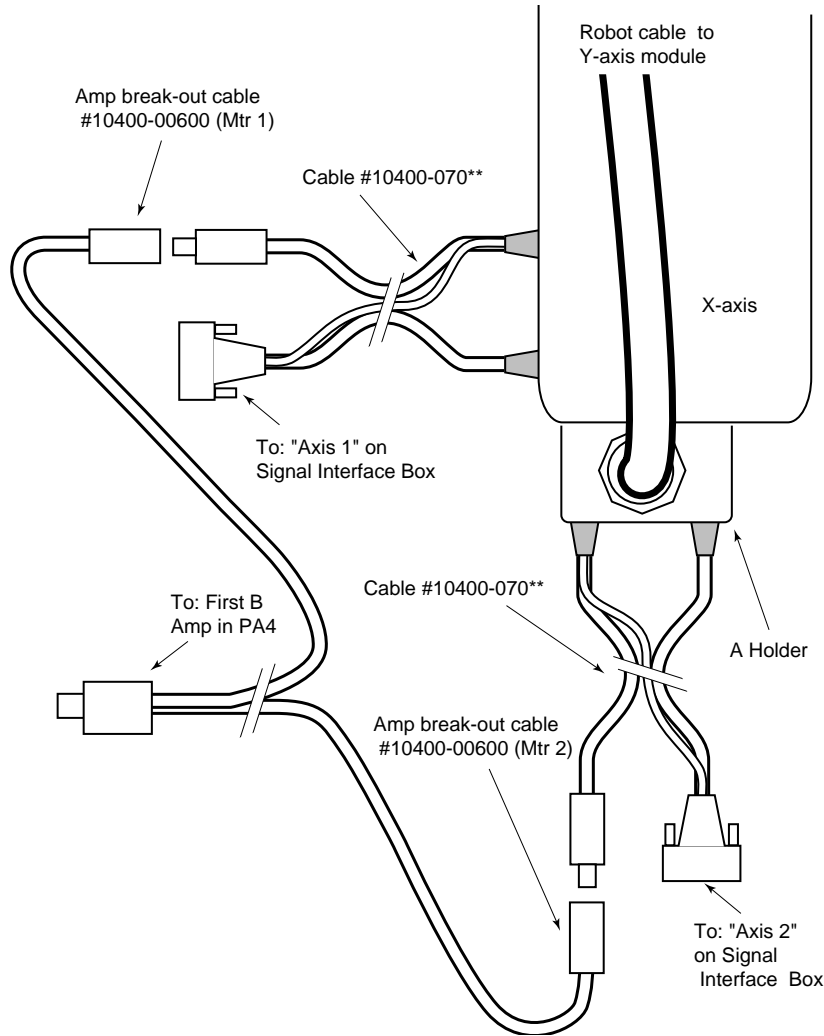

Figure 4-6. Connecting to an Adept MV Controller
- b. Attach the A holder end of the robot cable to the side of the M module as shown in Figure 4-6 (refer to Section 4.3 for holder mounting).
- a. Connect the two barrel ends of the cable to the X-axis module as shown in Figure 4-6. These connectors have different pin sizes and cannot be installed incorrectly.
- b. Attach the A holder end of the robot cable to the side of the H module as shown in Figure 4-6 (refer to Section 4.3 for holder mounting).
- c. Connect the two barrel ends of the cable to the A holder as shown in Figure 4-6. These connectors have different pin sizes and cannot be installed incorrectly.